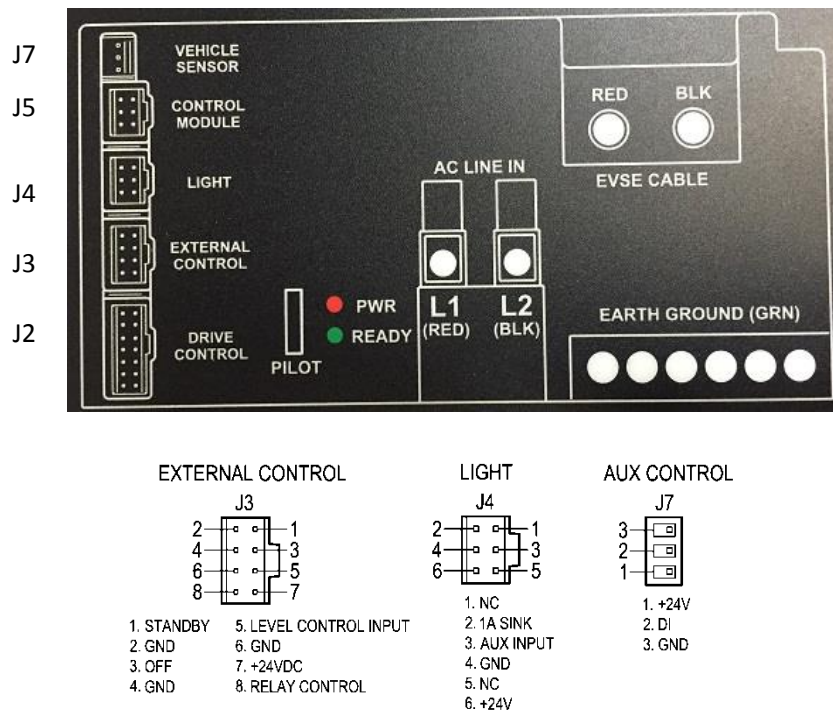

Figure 12B
1. Pull approximately 2 feet of cable out, and run the cable and connector through its access cutout in the front of the cover (**Figure 12B**).